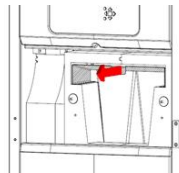

Fig. 1
- Remove the filter holder by pulling it straight out. See Fig. 1.